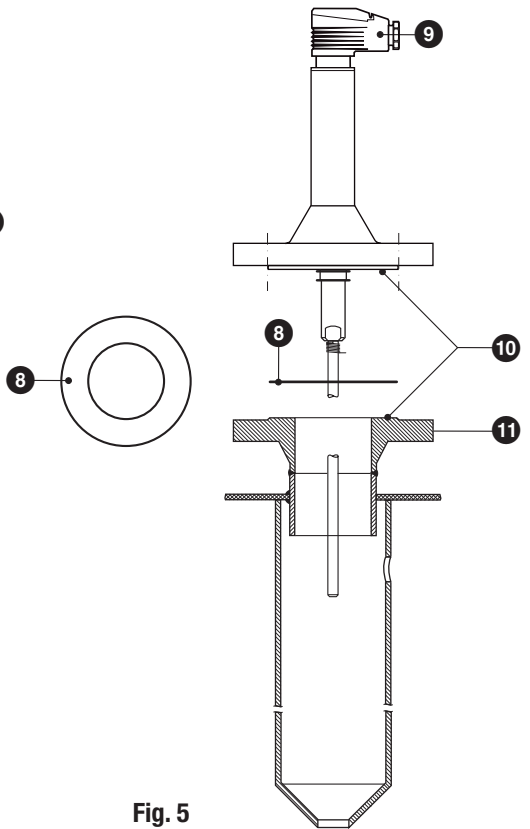

Fig. 5
2. Place flange seal ⑧ onto the connecting standpipe ⑩, **Fig. 5**